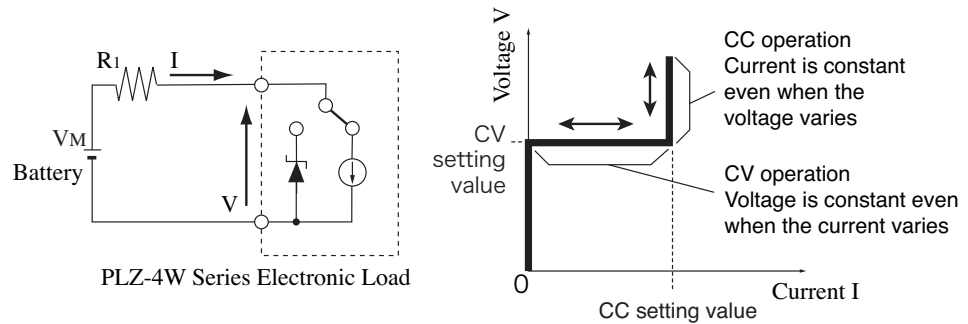

Fig. A-12 Equivalent circuit of the CC+CV mode and operation
When the PLZ-4W is used in CC+CV mode, the PLZ-4W operates as a constant current load and a constant voltage load (shunt regulator) as shown in Fig. A-12. When operating as a constant current load, the PLZ-4W sinks the specified current ( $I$ ) independent of the output voltage of the constant-voltage power supply ( $V_M$ ). When operating as a constant voltage load and  $V_M$  is greater than  $V$ , the input voltage  $V$  is kept constant even when the input current  $I$  varies. Current does not flow when  $V_M$  is less than or equal to  $V$ .
The switching between the modes is automatic. In the fig. A-12,  $R_1$  is the internal resistance of the constant-voltage power supply. In constant-voltage (CV) mode, the PLZ-4W may operate unstably if  $R_1$  is low.
We will consider the case when checking the discharge characteristics of a battery of Fig. A-12.